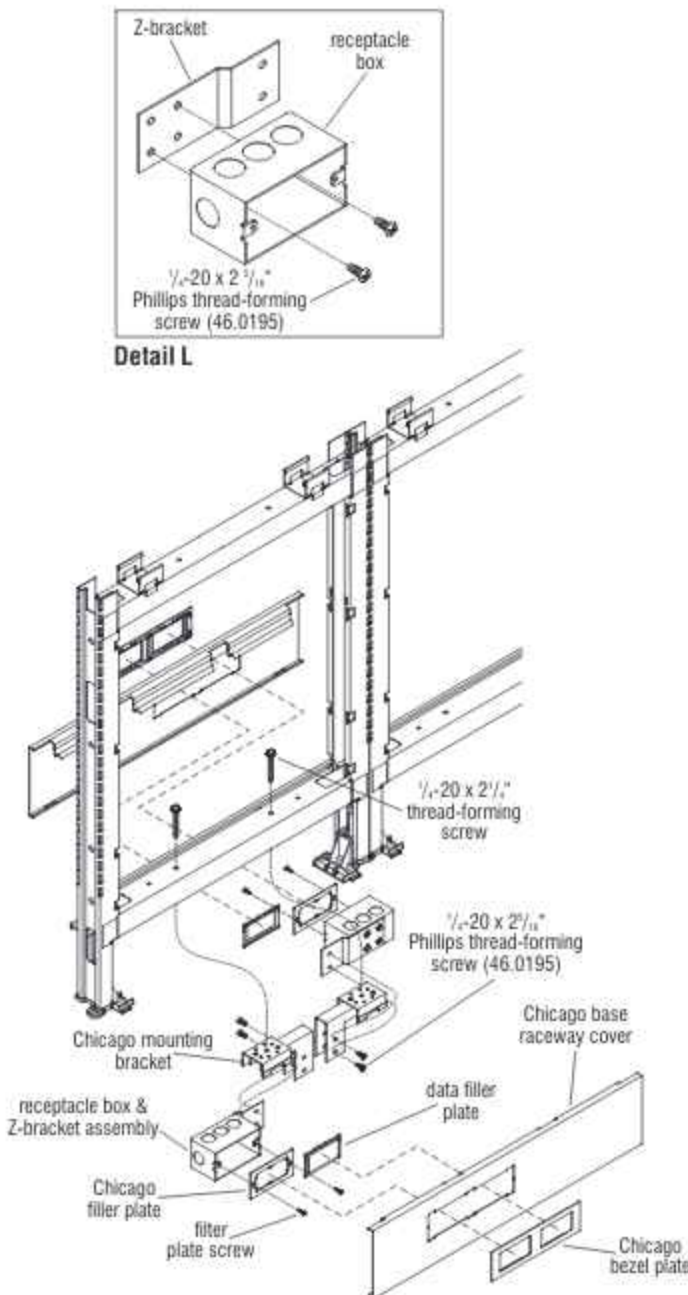

Figure 19 - Chicago Hardwired Base Power Infeed - 24" & 30" Panel Width
each receptacle box & Z-bracket assembly as illustrated. Orient the parts for assembly such that the screw goes through the Chicago bracket and threads into the Z-bracket (Figure 19).
3. If the lower panel frame rail has two brackets mounted under it, remove the  $\frac{1}{4}$ -20 x  $2\frac{1}{4}$ " thread-forming screws (46.0195) securing them. Discard the brackets but retain the thread-forming screws. Orient the Chicago mounting brackets (with receptacle & Z-bracket attached) under the holes in the lower panel frame rail and secure the Chicago mounting brackets to the frame rail using a  $\frac{1}{4}$ -20 x  $2\frac{1}{4}$ " thread-forming screw (Figure 19).
5. Place a Chicago filler plate over the receptacle box as illustrated and secure with two filler plate screws (Figure 19).
6. Install Chicago base raceway covers in the same manner as standard Unite. Chicago base raceway covers are different than standard as the cut-outs are in unique locations for this application (Figure 19).
7. Snap the Chicago bezel plate into the Chicago base raceway cover. Chicago bezel plates are different than standard as they have the  $\frac{1}{2}$ " deep snap tabs removed. Snap the data filler plates into the Chicago bezel plates if no data cables are used at that location. The data port accepts modular furniture data port covers or data jacks (Figure 19).